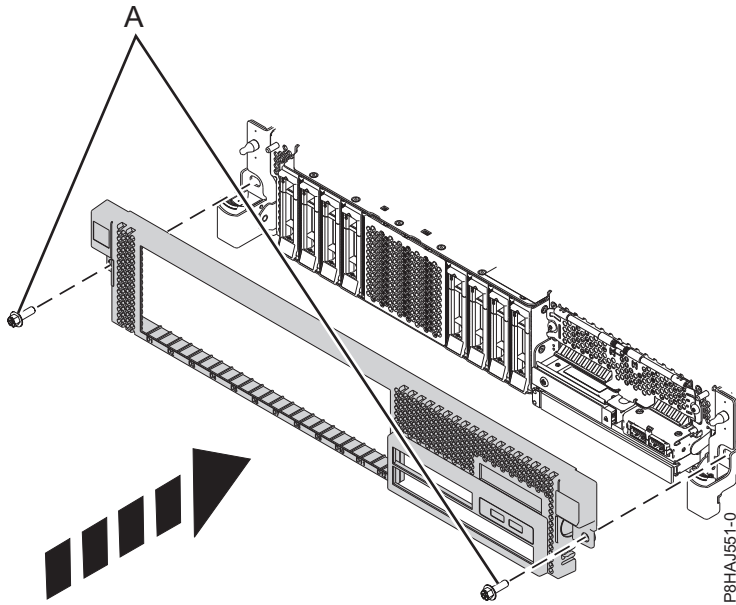

Figure 18. Installing the front cover
3. Close the release latches by pushing in the direction shown in Figure 18 on page 36. The cover snaps into place and has an indentation where you can hold onto it more easily.
4. Replace the shipping screws (A).